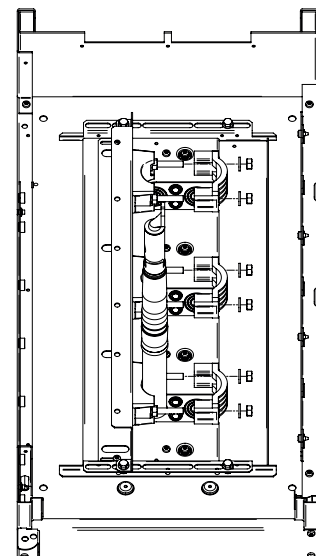

Figure 97. Installing the loose parts of the cable clamps
- a) Re-install the loose parts as shown in Figure 97.